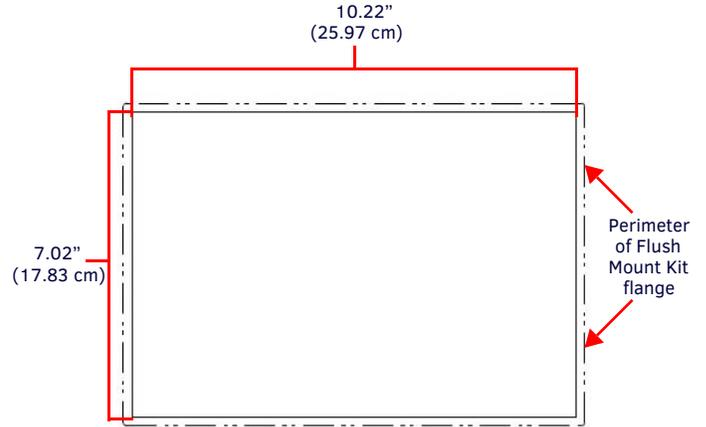

FIG. 2 MXA-FMK-10 CUTOUT TEMPLATE
1. After ensuring proper placement, cut out the mounting surface, using the MXA-FMK-10 Cutout Template (68-5968-07) as a guide (FIG. 2).